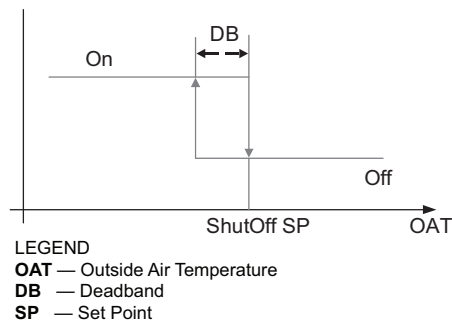

Fig. 67 — Hysteresis Settings
Hysteresis setting (DB) defaults to 2°F (–16.6°C). See Fig. 67.